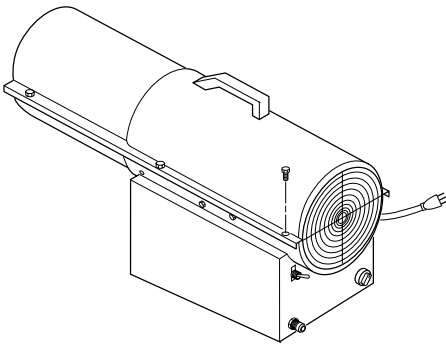

Figure 5 - Upper Shell Removal
1. Remove screws along each side of heater. These screws attach upper and lower shells together (See Figure 5).